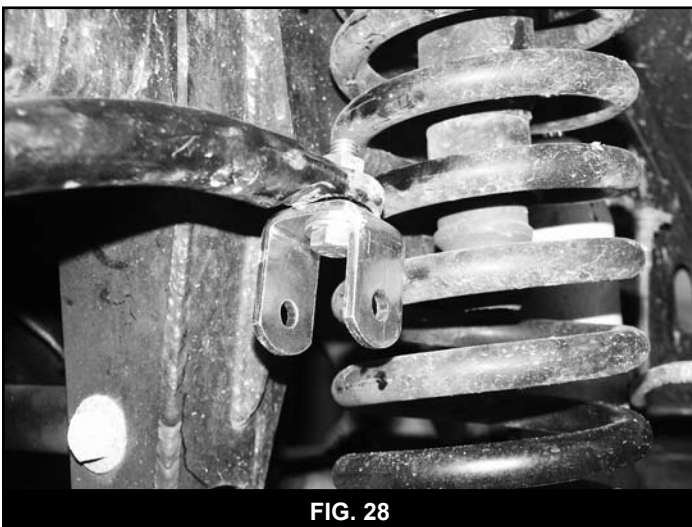

FIG. 28
70. Install the provided upper u-bracket (01325) to the sway bar using the original link mounting hole with a 7/16" x 1-1/2" bolt, nut, 7/16" SAE and 7/16" USS washers (BP 718). Install the bolt up through the u-bracket with an SAE washer into the sway bar. Fasten with the nut and USS washer. Position the bracket so that the thru-holes are parallel with the stud on the axle (Fig 28). Torque to 50 ft-lbs.